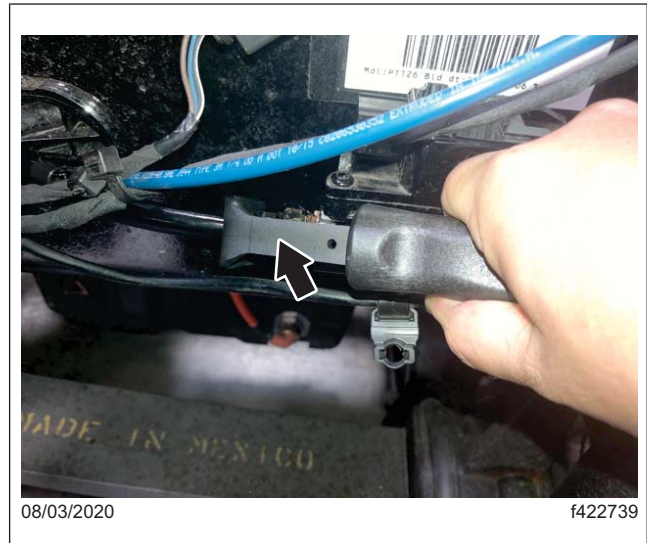

**Fig. 4, ABS Zip Tie**
3. Remove the antilock braking system (ABS) zip tie from the modulator mounting bolt. See Fig. 4.